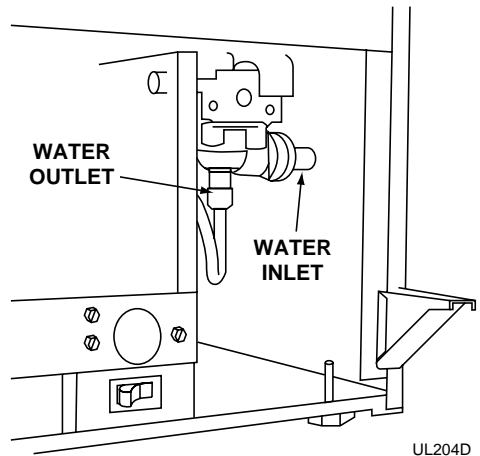

Figure 34
6. Disconnect the inlet and outlet lines to the water valve and allow them to drain (see Figure 34).